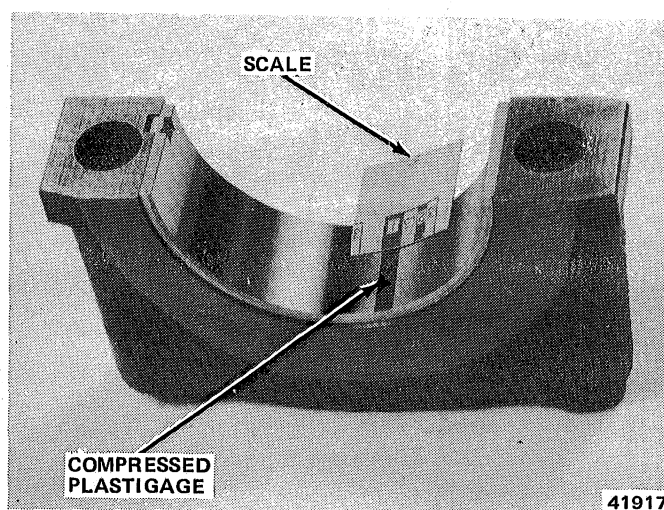

Fig. 1B-38 Measuring Bearing Clearance
(3) Install bearing cap and insert. Tighten retaining bolts evenly with 65 foot-pounds (88 N•m) torque.
(4) Remove bearing cap. Flattened Plastigage will be adhering to either bearing insert or journal.
(5) Without removing Plastigage, measure its compressed width (at the widest point) (fig. 1B-38).